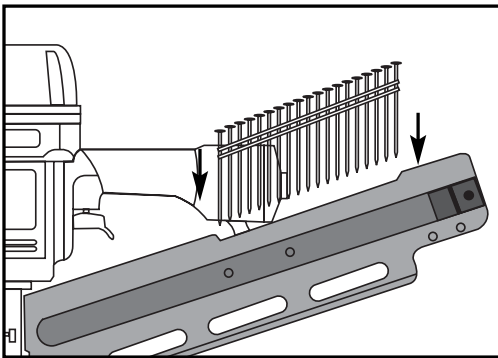

Figure 1. Loading the nailer.
3. Place a stick of nails into the magazine as shown in **Figure 1**. Make sure the pointed ends of the nails are facing down.